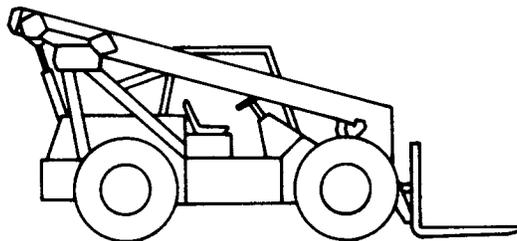

FIGURE 10—
- 4.2.3 Variable Reach with or without Mast (see Figure 10)